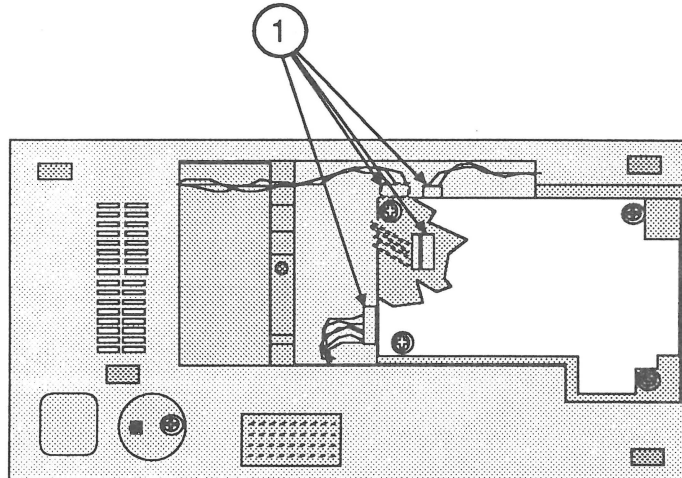

FIGURE 36
4. Once the screws are removed, the board will be loose and you can pull it out easily. Before pulling the board all the way out, reach around and remove the four connectors—CN2, CN3, CN7, and CN8—(Figure 36, #1).